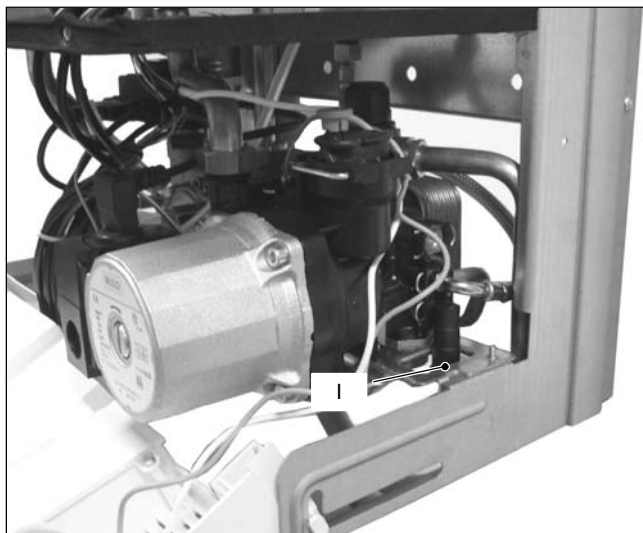

Fig. 2.9
- 3 Open the drain tap *I* (Fig. 2.9 combi or Fig. 2.10 only c.h.) until the boiler is completely emptied.